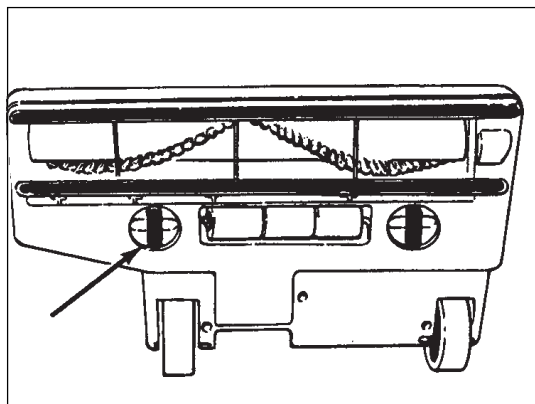

Figure 22
2. Turn the knobs which secure the nozzle plate. See figure 22.